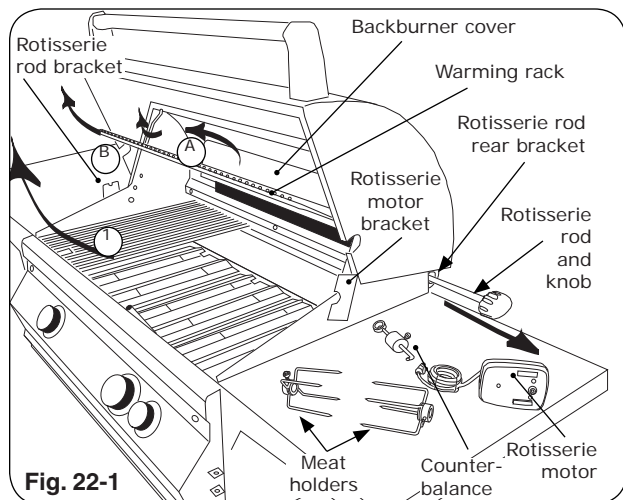
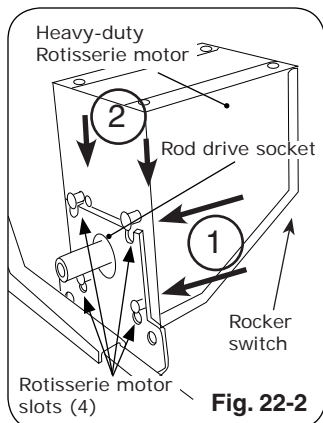
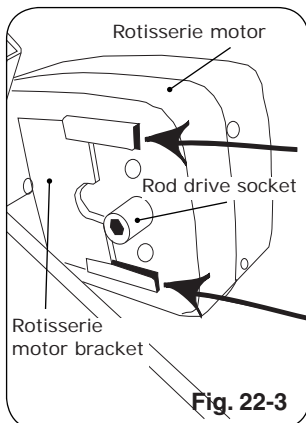

Fig. 22-1
Fig. 22-2
Fig. 22-3
2. Slide rotisserie motor fully onto motor bracket (right side, Fig. 22-2 or Fig. 22-3, and Fig. 22-1).
3. Remove rotisserie rod from rear bracket (Fig. 22-1) and attach knob if necessary.